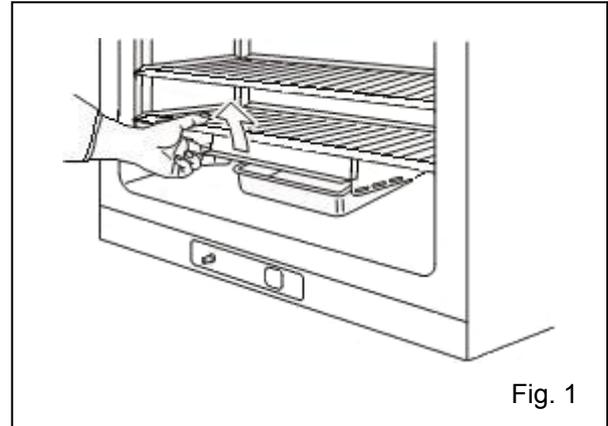

Fig. 1
1. Inside of unit is arranged as shown in Fig. 1 when humidifying pan cover removed. There is a gas injection port in the lower left-hand corner.
2. Clean the removed inner attachments, chamber inside walls and inner door gaskets with a cloth or sponge soaked in neutral detergent, diluted by 5 % or less. (Undiluted detergent can damage the plastic components. For the dilution, refer to the instruction of the detergent.) (Fig. 1)
2. Open the outer and inner doors and pull out the trays. (Fig. 1)
2. When installing the fan, insert it to the motor shaft securely. Lightly turn the fan manually to make sure that it does not strike the rear panel. Then put on the central spring. (Fig. 1)
(Fig. 1)